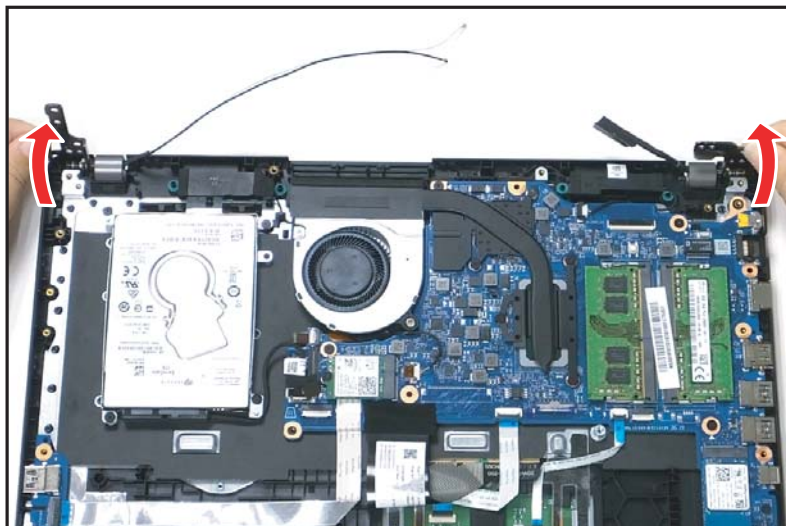

Figure 1-29. LCD Module Removal
7. Close the top assembly and lift both LCD hinges until they are fully extended (Figure 1-29).